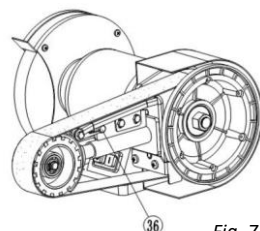

Fig. 7
1. Loosen the bolt (#36) (Fig. 7).
6. If necessary, turn off the power and adjust the eccentric plate (#25) slightly until the position is ideal (Fig. 7).